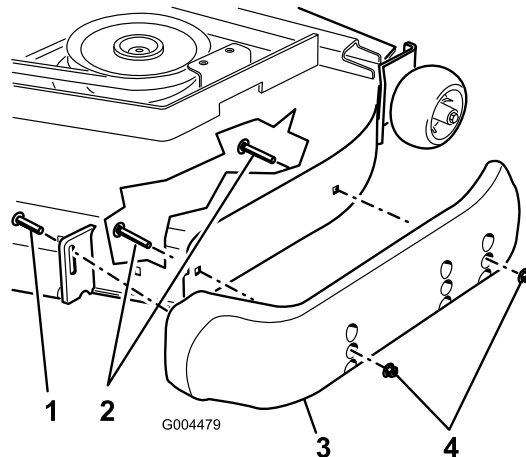

Figure 9
3. Loosen the screw at the front of each skid. There are 2 skids on Guardian mowers and 1 skid on side-discharge cutting units (Figure 9).